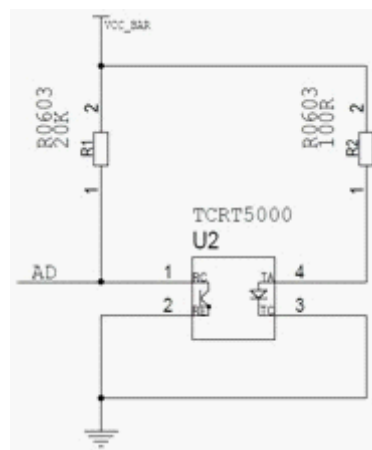

Figure 3
① Sensing probe TCRT5000 is consisted of a pair of infrared transmitting and receiving tube, the schematic of which is shown in figure 3. After the infrared receiving tube receives a signal, it will reflect different voltage output value depending on the distance. When there are no objects blocking, interface 1 of TCRT5000 will output supply voltage; when there are foreign matters approaching, the receiving tube of TCRT5000 will receive infrared signal. The shorter the distance, the stronger the signal, the lower the voltage output from terminal 1. The smart tracking car with TCRT5000 probe makes use of the feature of infrared that it has different reflective properties on surfaces of different colors, it emits infrared constantly to the ground in the process of moving. The infrared light reflects when it encounters white road, then the reflected light will be received by the receiving tube of TCRT5000, the LED indicator on the module will not be illuminated; If it encounter a black line, the infrared light will be absorbed which cannot be received by the receiving tube of